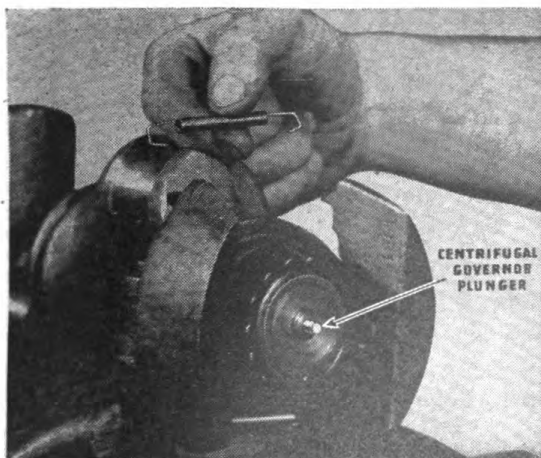

Figure 158
(6) Plunger spring (See Figure 156) and governor flyweight springs (See Figure 158) should be replaced if they are broken or have lost their tension. Damaged springs will interfere with proper operation of loadless starting mechanism.
(7) If necessary to remove governor or Timken bearing from crankshaft, proceed as follows: